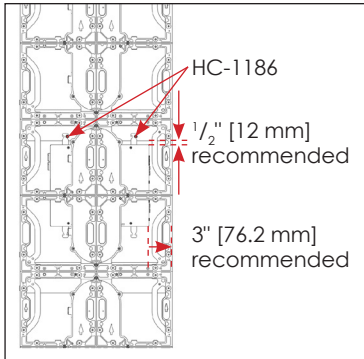

Figure 4: Attach PLR Enclosure to Horizontal Mounting Structure
2. Use the self-threading screws (HC-1186) to attach the PLR enclosure to the horizontal mounting structure. It is recommended to leave 1/2" [12 mm] gap from the top of the enclosure to the bottom of the tube to provide clearance for removal. Refer to **Figure 4**.